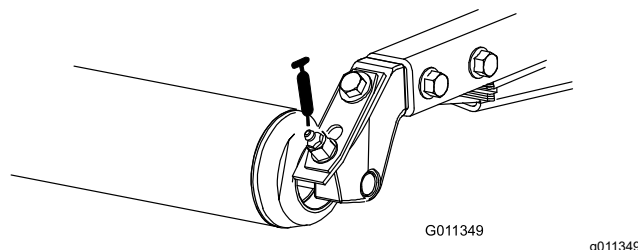

Figure 11
- Rear-roller bearings (2 per cutting unit)—Figure 11